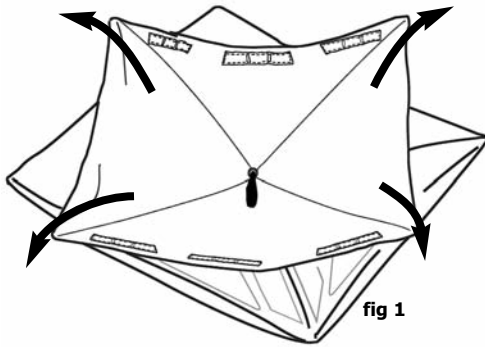

fig 1
**Step 1:** After removing Blind from case, unfold each corner outward and lay flat on ground (fig 1). Be sure material is NOT twisted or overlapping ends of poles.